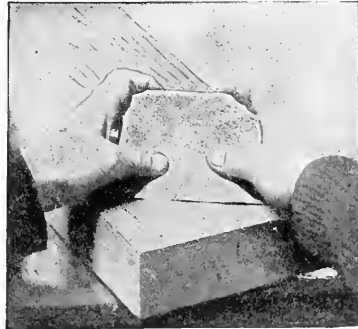

Fig. 168
55. The Scraper.—The cabinet-scraper is made of saw-blade steel, and is used to make a surface smoother than can be done with the plane or other tool. The edge is turned over as in Fig. 167 (see also page 109) and cuts off thin shavings. Hold the scraper between the fingers and thumbs (Fig. 168), inclined from you but as nearly upright as will allow the edge to cut well, and push it forward with force. Spring or bend it slightly so that it will cut in the middle (Fig. 169). Scrape with the grain as a rule. It is often best however to hold the scraper obliquely to the grain (Fig. 168), when there are little ridges or undulations on the surface, and where there are alternations of hard and soft grain, as in quartered oak. If the grain is crooked or twisted, scrape in any direction that will make the surface smooth. Test for smoothness by running the fingers over the surface with a light touch. An experienced workman can at once feel in-